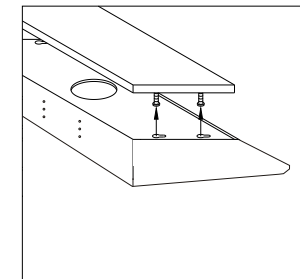

Fig.11
- b. The large part of the keyhole mounting slots on the hood fit onto the hood mounting screws projecting from the bottom of the cabinet. (Fig.11)